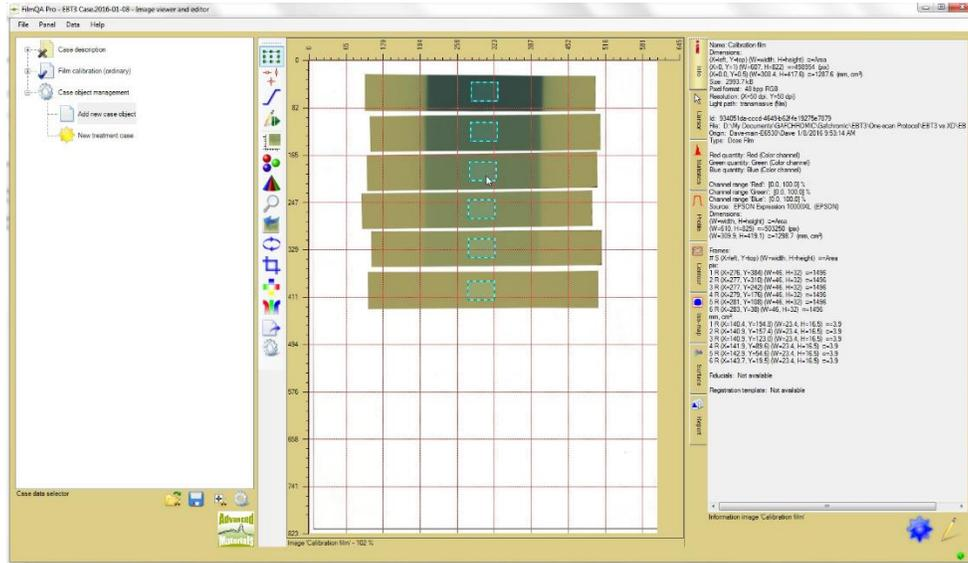

Figure V-6
Step 7: Scan the films. Then use the Frame Tool in FilmQAPro to mark areas of interest at the center of each calibration strip (Figure V-6).